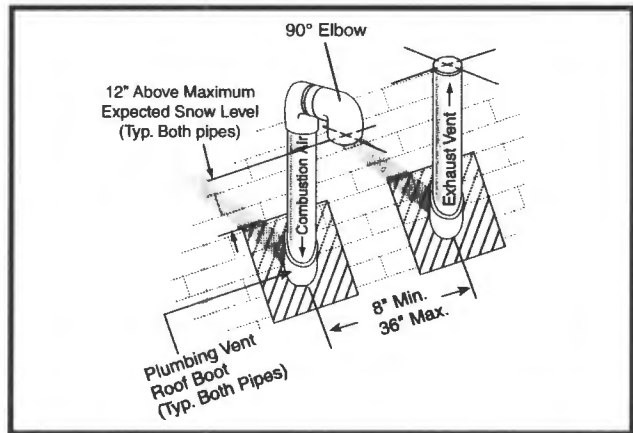

Figure 9. Vertical Vent Termination
Termination spacing requirements from the roof and from each other are shown in Figure 9. The roof penetration must be properly flashed and waterproofed with a plumbing roof boot or equivalent flashing. Vent and combustion air piping may be installed in an existing chimney which is not in use provided that:
- The termination clearances shown in Figure 9 are maintained.